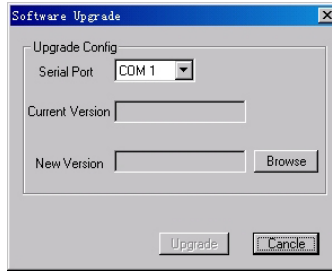

Figure 7-10
4. Select the Upgrade File and click the “Open” button. The version of the Upgrade File will be displayed in Figure 7-10.